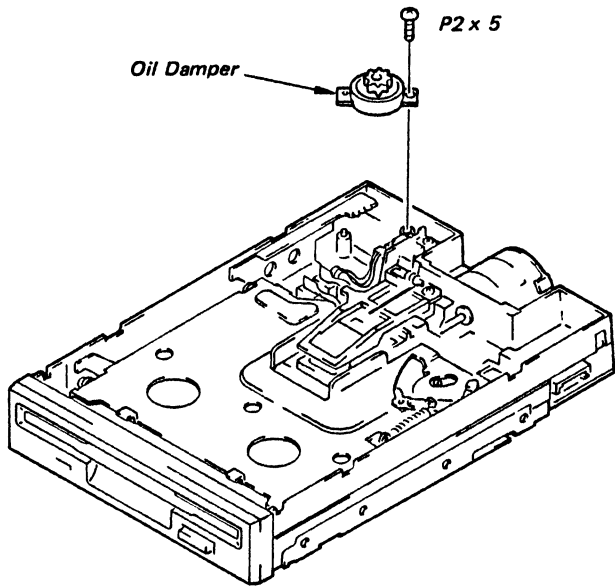

Fig. 4-11 Oil Damper Replacement
- c. Lift up the Damper and take it out. (Refer to Fig. 4-11)